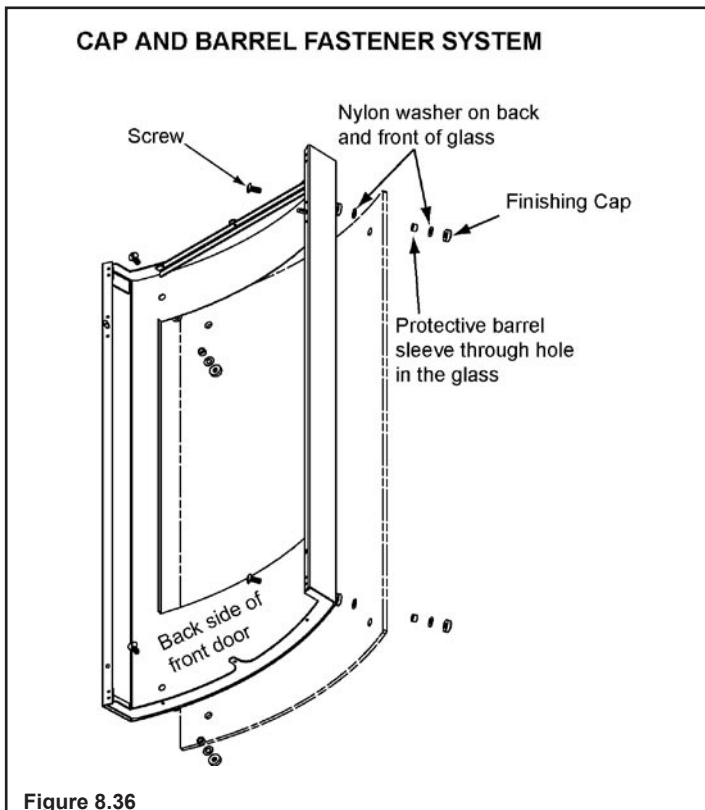

Figure 8.36
**Refer to Figure 8.36:** Position the four flat 1/4 in. (6mm) spacer washers on the front door so that the four mounting screws pass through them. Position the glass over the front door.